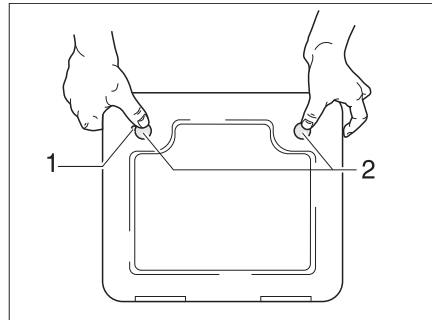

Fig. 383 Flap for the toilet cassette
- Open the flap for the cassette on the outside of the vehicle. Insert the key into the locking cylinder of the push-button lock (Fig. 383,1) and turn a quarter turn.
- Press both push-button locks (Fig. 383,2) simultaneously with your thumb and open the flap for the cassette.